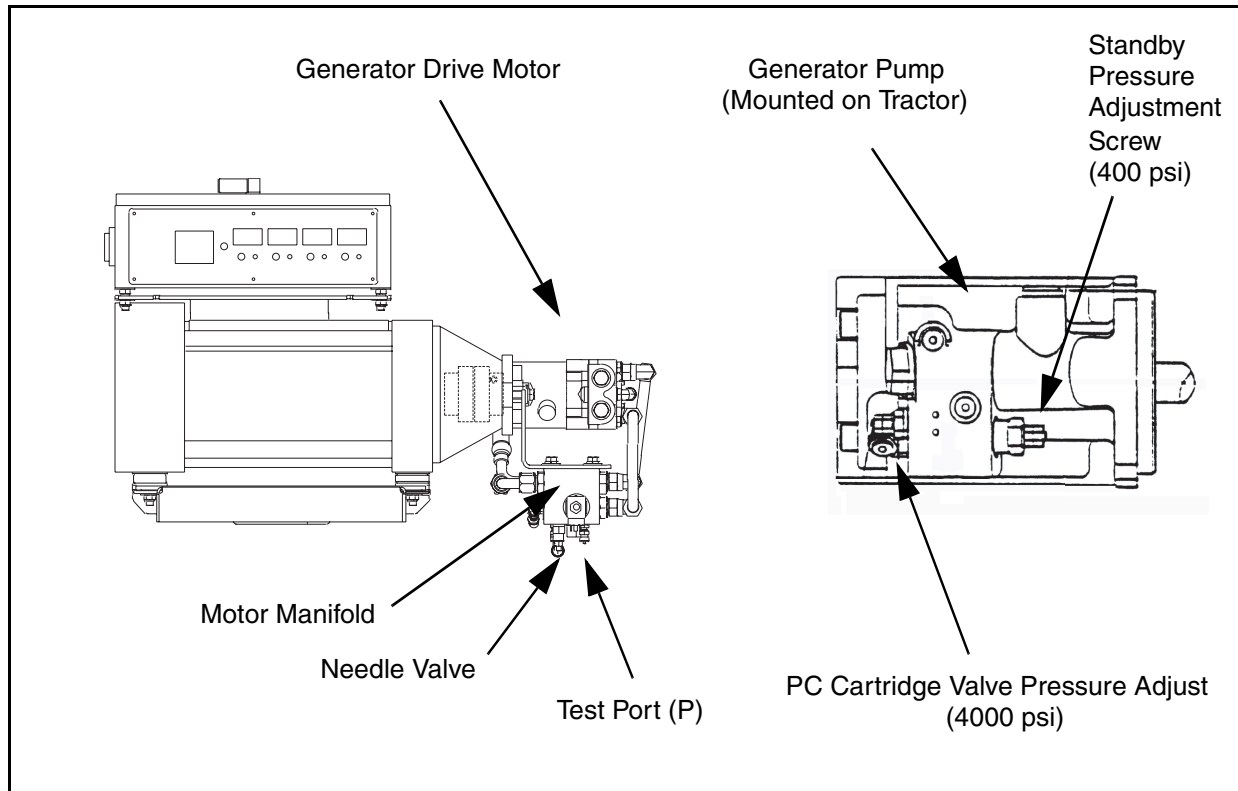

Figure 5 - 3 Screed Generator Hydraulic Pump Assembly
- 3) Turn each screed section control switch to AUTO (Figure 5 - 2).
If screed section heater power indicators (Figure 5 - 2) do not light, check circuit breakers inside of control box (Figure 5 - 1).
This hydraulic pump circuit has three valves which require adjustment: the needle valve (located on the drive motor manifold), the pump standby pressure adjustment screw and the maximum pressure valves, both located on the pump (Figure 5 - 3).